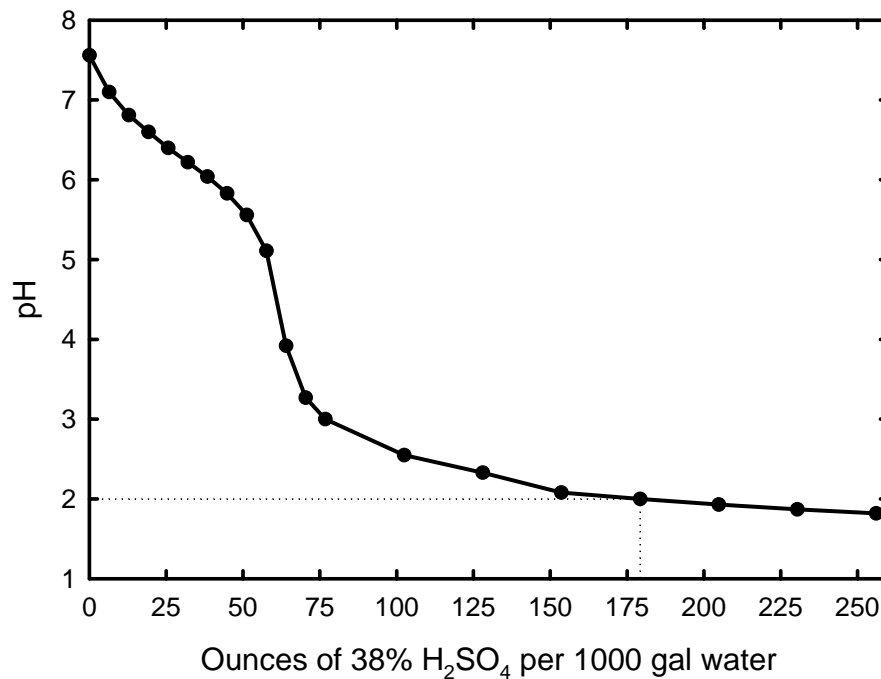

Fig. 2. Example of an acid-irrigation water titration curve.
- Determine the amount of acid required to decrease the pH to 2.0 or less by titrating a sample of the irrigation water. A titration curve (Fig. 2) is unique for each water source and type of acid.